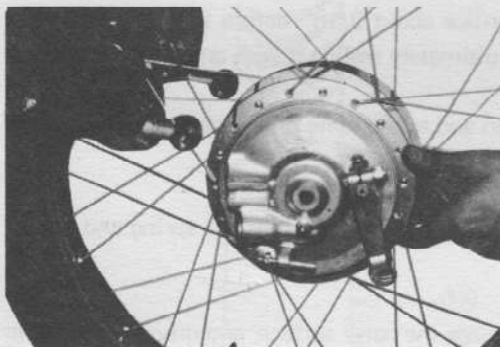

Fig. 4-4
3. Pull out the front wheel shaft and take off the wheel. (Fig. 4-4)